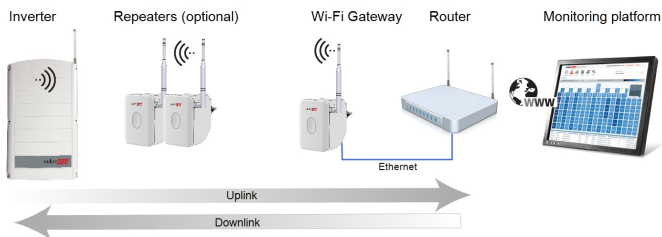

Figure 2: Single inverter, wireless connection
- **Uplink** - communication from the inverter or Wi-Fi repeater to the Wi-Fi Gateway/repeater towards the monitoring platform (see *Figure 2*).
- **Downlink** - communication from the Wi-Fi Gateway or repeater towards the inverter/ repeater (see *Figure 2*).